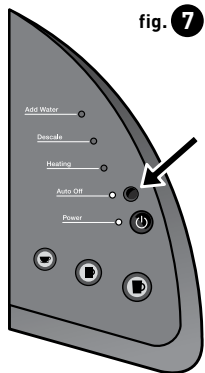

fig. 7
2. Press the black Auto Off Button to turn on the Auto Off Timer feature (fig. 7). The green Auto Off Light will illuminate.